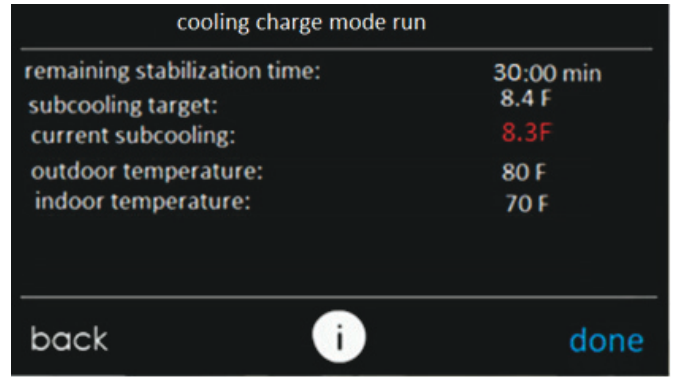

Fig. 20 – Cooling Charge Mode Run Screen A240375
- Once start has been pressed, the next screen will show the target subcooling that should be attained while charging. If subcooling mode is not available, the current subcooling and target will display as dashes and the refrigerant must be weighed in. Weigh in the charge amount recorded in Step 7. The charge level may then be checked at another time when both the indoor and outdoor temperatures are in a more favorable range that allow for subcooling charging. When subcooling is available, the current subcooling will appear in red (Fig. 20) until the stabilization timer is 0 where it will then turn green, indicating the system has stabilized. "Current subcooling" is calculated using sensors inside the ODU, but may be in error until stabilization time has completed. Compare the "current subcooling" to the “subcooling target” listed on the charging screen. Add refrigerant if the subcooling is low and remove refrigerant if